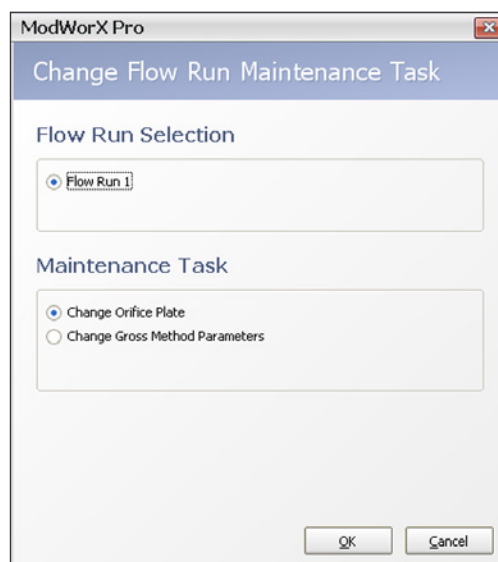

Figure 9.8
1. If Change Gross Method Parameters is not displayed in the Maintenance Task field at the top of the Maintain Flow Run screen, click on **Change Task**. The Change Flow Run Maintenance Task dialog will appear (Figure 9.8).